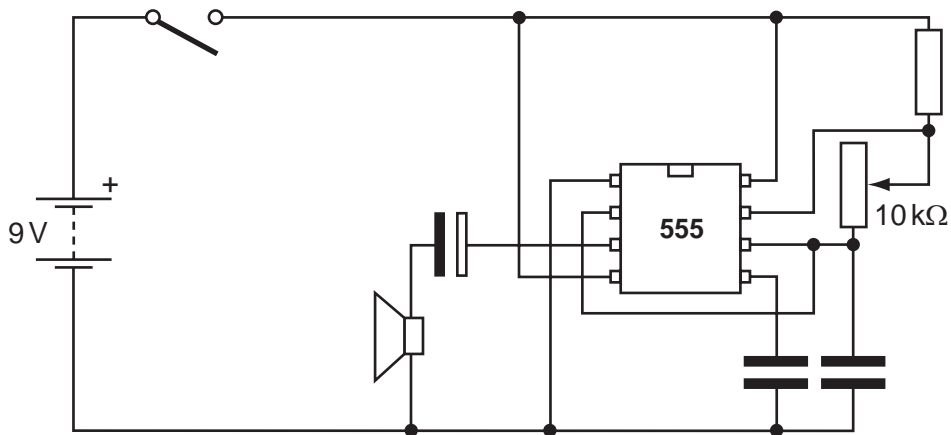

Fig. 3
- 6 Fig. 3 shows a circuit diagram for an audible alarm device.